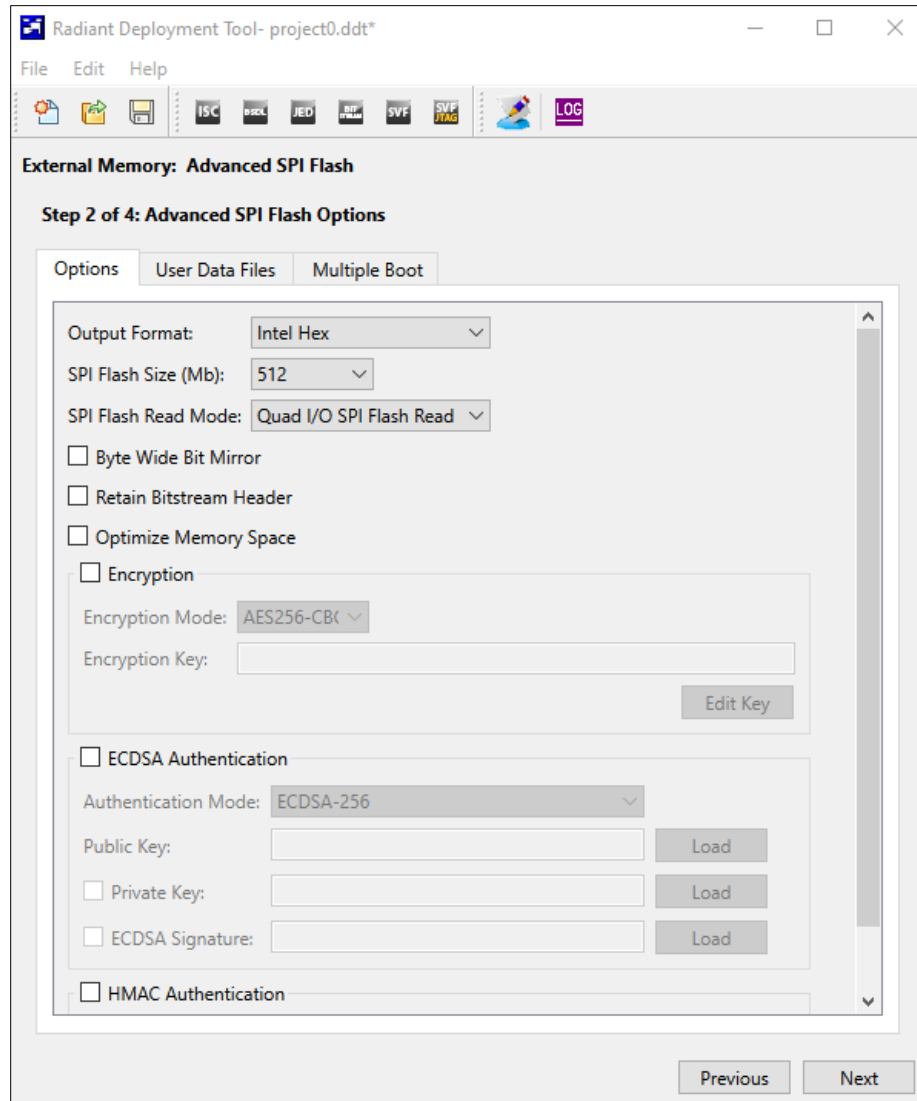

Figure 7.61. External Memory Step 2 of 4: Select Options
7. In **Step 2 of 4: Advanced SPI Flash Options**, select the fields as shown in Figure 7.61.